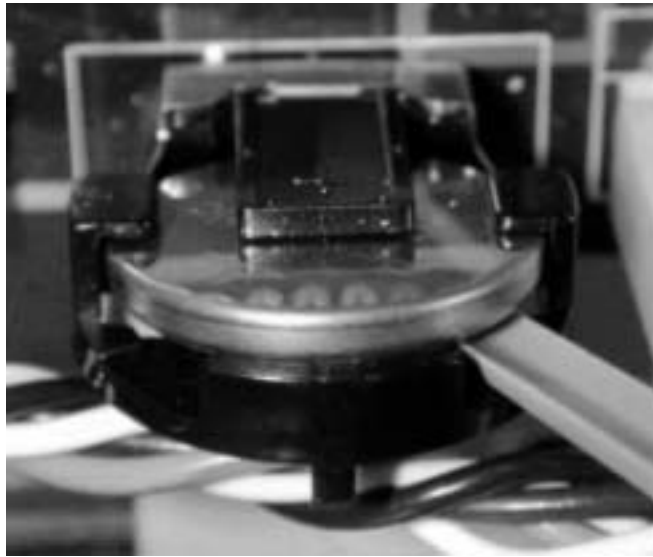

Figure A-1 Freeing battery from retaining clip
2. Insert your fingernail, a plastic knife, or a pen cap in one of the slots on the top of the battery's retaining clip and gently pry the battery loose from the retaining clip, as shown in Figure A-1.